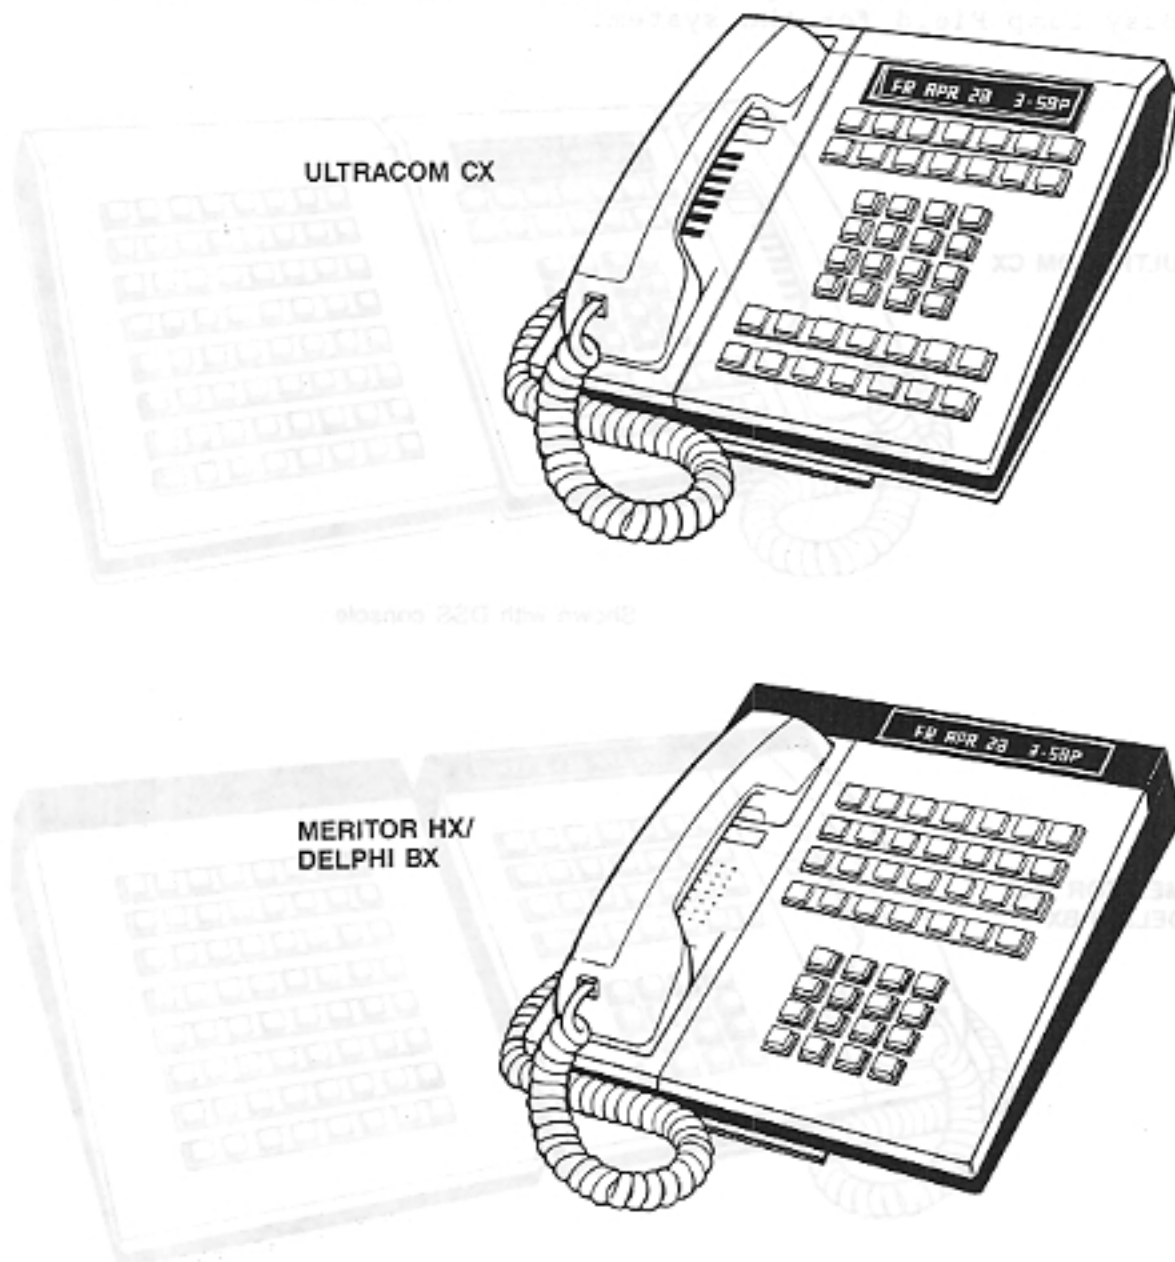

Figure 1-4 DISPLAY MULTIBUTTON KEY TELEPHONE, TCX-128
2.14 The Display Multibutton Key Telephone (Figure 1-4) provides all of the features of the Multibutton Key Telephone, plus a display window for a visual message reference. The dial pad has four additional keys which provide for Volume Control (VOL UP, VOL DN), Last Number Redial, and number Save (storage). The display telephone has full speakerphone (Handsfree) capability.